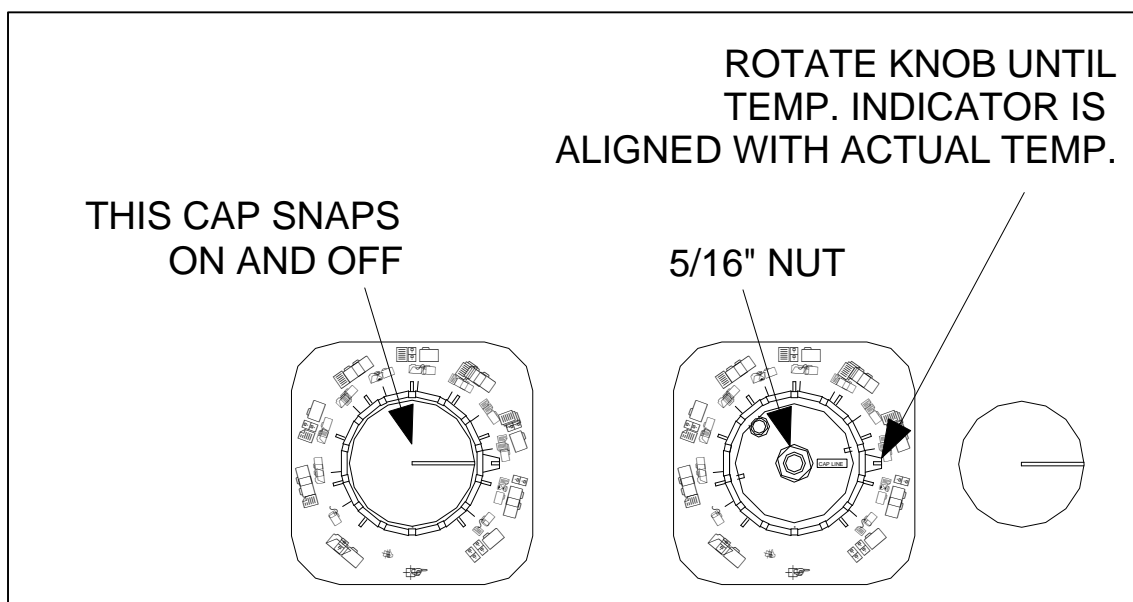

Figure 9
7. To adjust the control, carefully remove the cap on the thermostat knob, See Figure 9, set cap aside.